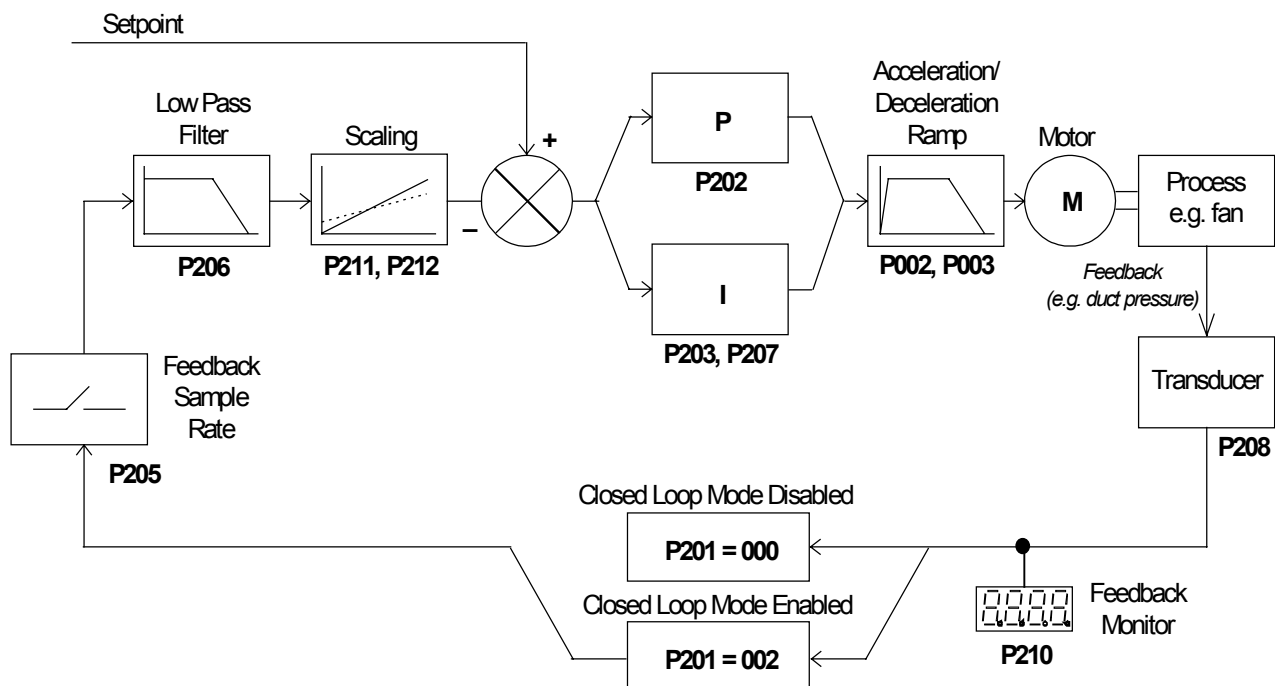

Figure 7: Closed Loop Control
The CombiDrive® provides a Proportional/Integral (PI) control function for closed loop control (see Figure 7). PI control is ideal for temperature or pressure control, or other applications where the controlled variable changes slowly or where transient errors are not critical. This control loop is **not** suitable for use in systems where fast response times are required.
Closed loop control cannot be used unless P201 is first set to 001. Most of the parameters associated with closed loop control are shown in Figure 7. Other parameters which are also associated with closed loop control are as follows: